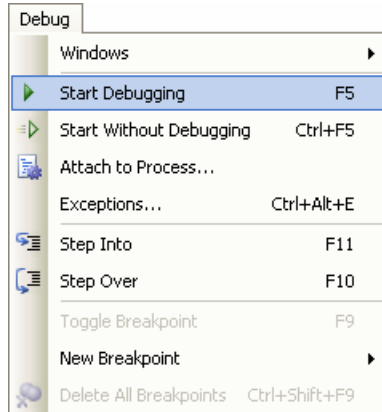

Figure 7.20
2. Similar to ordinary debugging operations with an actual DT-X7, the **Device Emulator** allows break point setting (circled in red in Figure 7.20) in the source code and step-by-step debugging.